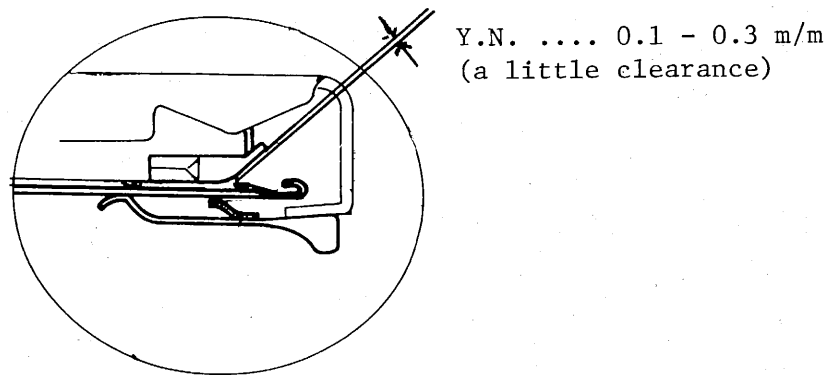

Fig. 97-2
- (4) Adjust the P.N. Clearance within $-0.5 - 0$ m/m (to an extent the edge of Fabric Presser touches lower surface of Needles softly), and the same time, as shown in Fig. 97-2 there must be a clearance between Yarn Feeder and Needles.
- (A) In case there exists a clearance over 0.4 m/m between Yarn Feeder and Needle, the stitches of contrasting yarn drops in Fairisle knitting.